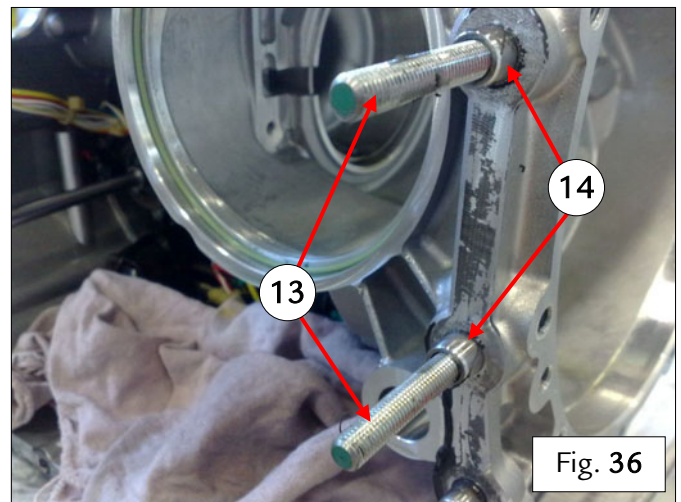

Fig. 36
- Install the new alignment dowels (14) on the differential housing – Fig. 36.
- Install the new stud bolts (13) on the differential housing, tightening to a torque of $15 \text{ Nm} \pm 1 \text{ Nm}$ – Fig. 36.